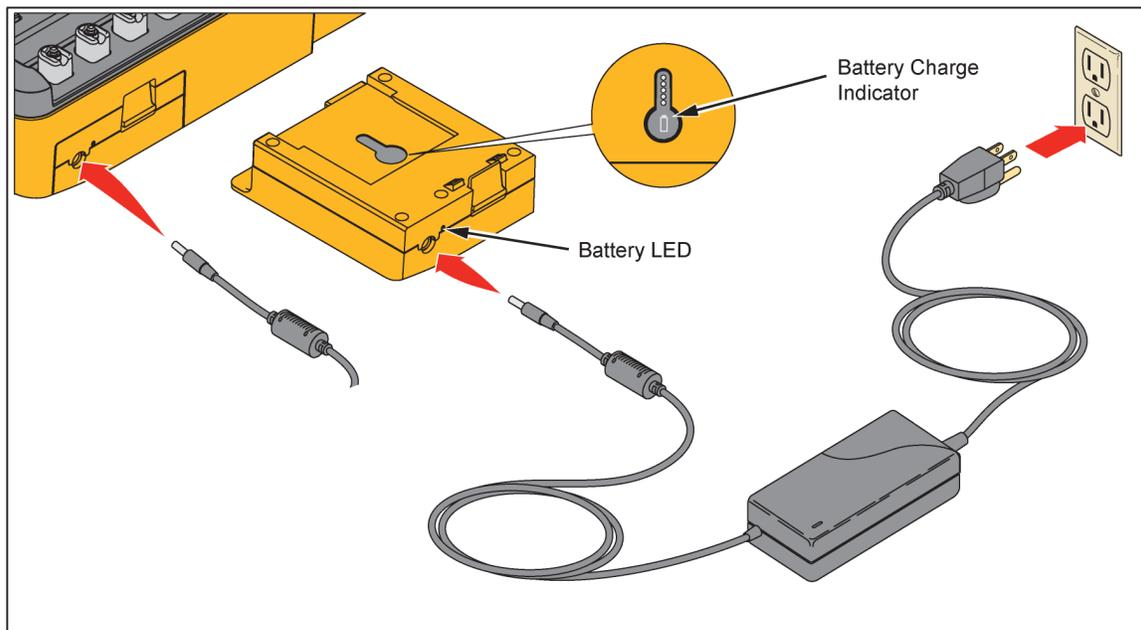

Figure 59. External Battery Charging Connections
2. Connect the ac/dc power supply to the power connector on the battery pack. See Figure 59.
When the battery pack is removed from the Product, push the button below the charge level indicators to see the battery charge level. See Figure 59.